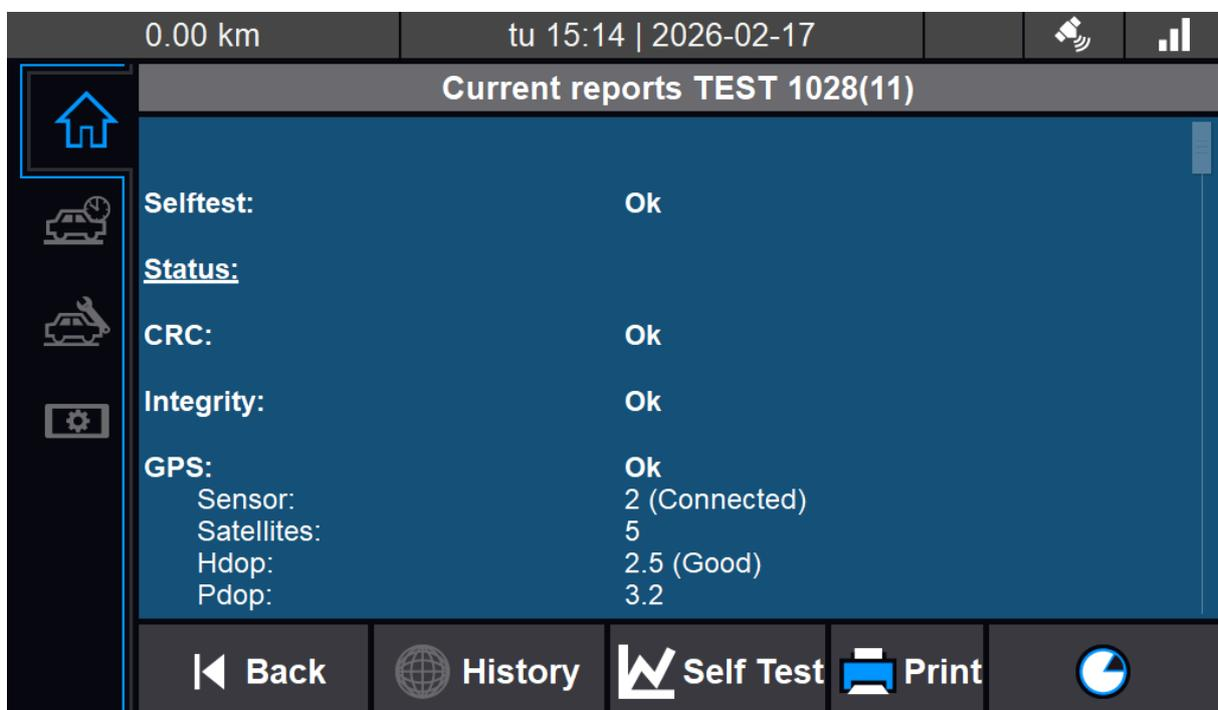

Figure 3-1: Warnings menu
1. Open the warnings menu (Figure 3-1).